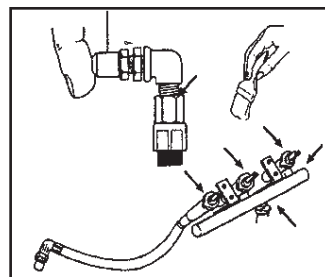

Fig. 6
**ATTENTION: GARDER LES TUBES VENTURI PROPRES. LES OBSTRUCTIONS CAUSÉES PAR LES TOILES D'ARAIGNÉE, NIDS D'INSECTES OU L'EAU PEUVENT CAUSER UN FEU DE RETOUR DE FLAMME. (FIG. 6)**